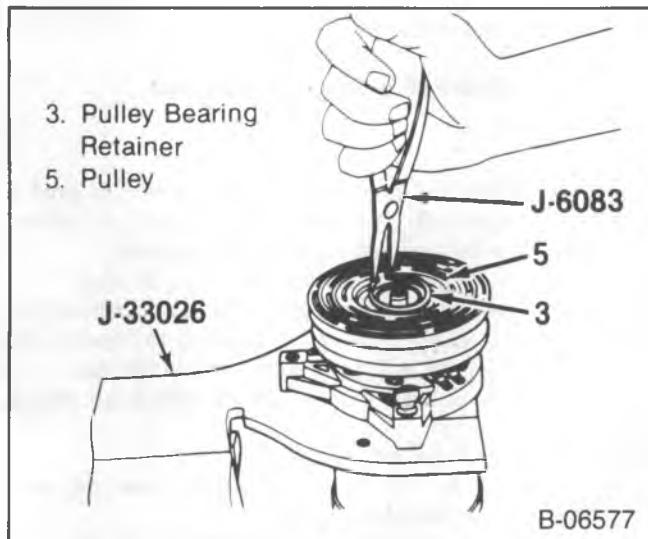
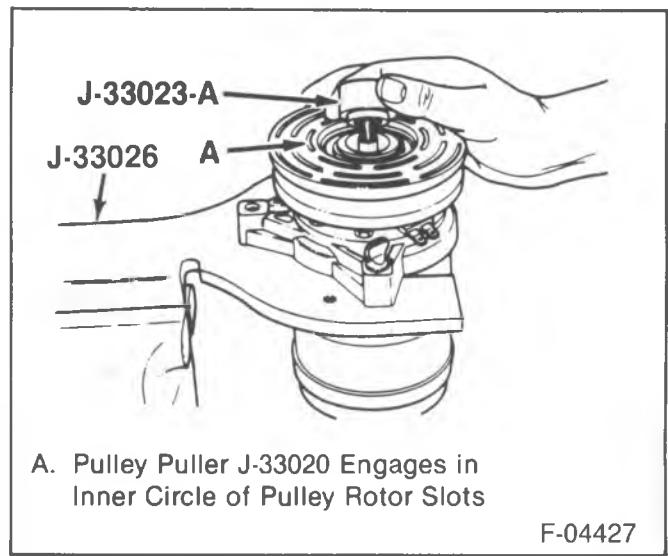

Figure 9 — Removing the Pulley Rotor and Bearing Retaining Ring
Figure 10 — Installing the Puller Pilot and Pulley Rotor Slot Location
1. Clutch plate and hub assembly (2).
2. Pulley bearing retainer (3) using J 6083 (figure 9).
3. Pulley (5).
- Install J 33023-A to the front head (figure 10).
- 4. Pulley bearing retainer (3) using J 6083 (figure 9).
- 5. Clutch plate and hub assembly (2).